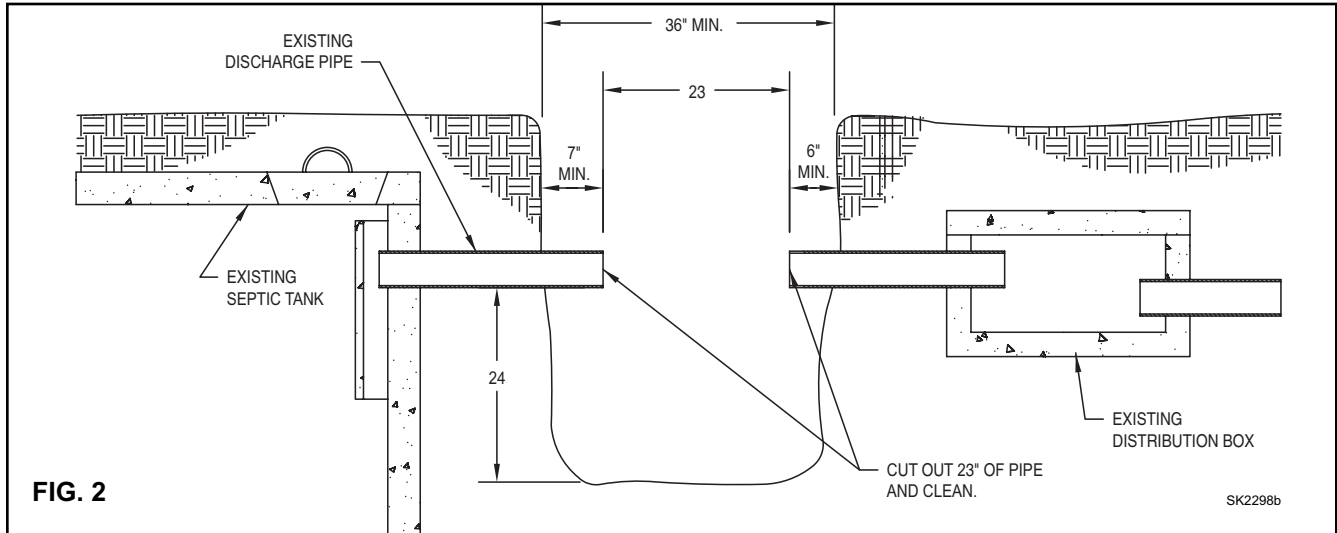

**Fig. 1**
4. Place 3" of sand or gravel in the hole. Place the basin in the hole, and adjust fill as needed to line up the pipe coming from the septic tank and the inlet hole on the basin. Insert the pipe coming from the septic tank into the inlet of the basin. The pipe should extend into the basin approximately 1" (see Fig. 1).
5. Prepare the coupling and pipe for cementing, then push outward on the outlet pipe and cement the coupling to the existing pipe. The pipe should extend into the basin approximately 3" (see Fig. 1). Note: After pipe is installed, clean off any remaining lubricant. (See Step #3)
6. To attach the filter (P/N 170-0078) to the outlet pipe, cement a 4" sanitary tee on to the outlet pipe with a 12" length of 4" pipe cemented to the bottom opening of the sanitary tee (See Fig. 1). If using a Zoeller Filter (P/N 170-0144) remove the filter from the sanitary tee. Cement the sanitary tee on to the pipe extending into the outlet of the basin. If the piping is SDR 35 use the reducer supplied with the filter. Slide the filter back into the sanitary tee.